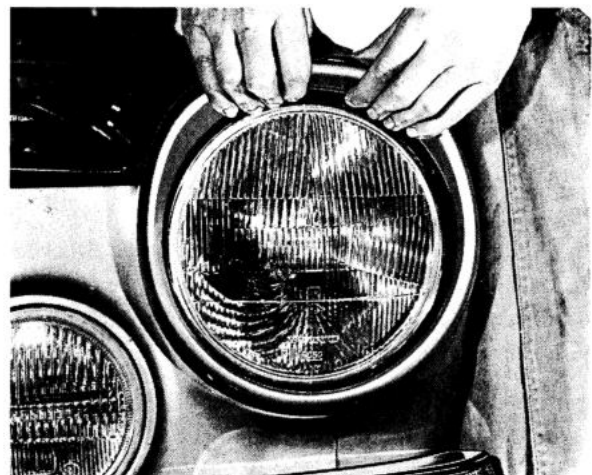

Fig. 3-64. Removing the outer rim
3. Remove the outer rim by pulling it upwards-forwards, see Fig. 3-64.